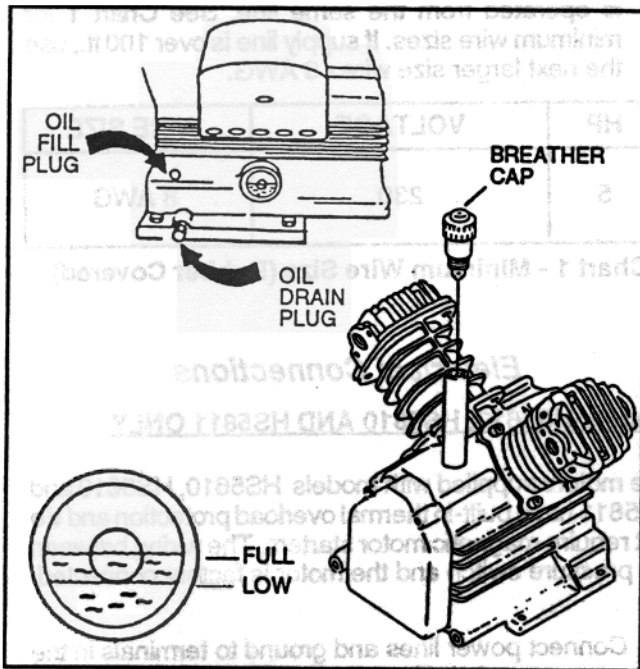

Figure 3 - Sight Gauge
2. Fill slowly to the center of the red circle on the oil level indicator and replace filler plug and breather cap (See Figure 3).
During the first 100 hours of operation, check the oil level at least every 5 hours. Be sure level is at the full line (See Figure 3).